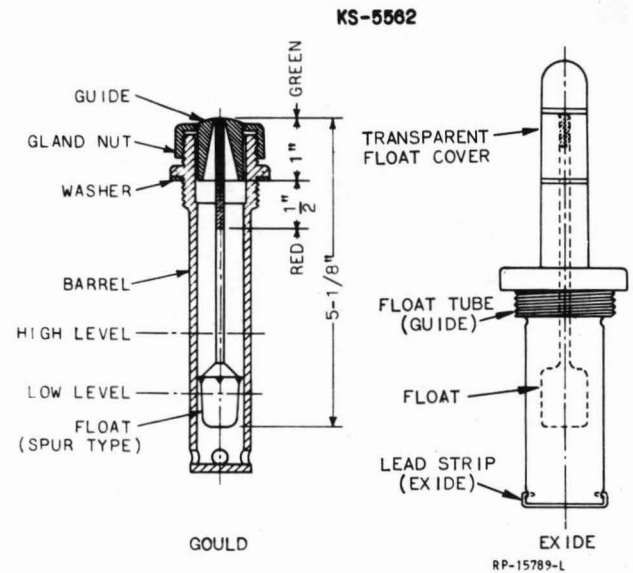

FIG. 4 ELECTROLYTE LEVEL INDICATORS (PARS. 6.2, 6.5, 6.6)
6.2 A transparent float cover is fitted over the exposed part of the float in Exide floor mounted cells. The stem of the float for an Exide KS-5562 cell is colored at the top. Lines are etched on the float cover to indicate high and low levels of electrolyte. See Figure 4.
6.5 To assemble Exide level indicators having float covers, bend both ears of the lead strip at right angles to body of strip using a pair of R-2291 short nose pliers. See Figure 4. Insert float stem up into bottom of float tube. Engage bent ears of lead strip by pressing ends into side holes on body of the float tube. This strip acts as a stop for the float.
6.6 To install Gould level indicators remove the hard rubber packing gland from the barrel, place the float guide in the gland with the small opening at the top. Place the stem of the float through the float guide and place on the barrel in the cell cover with the bulb part of the float down in the well and then screw the gland in place to a snug fit. When the float guide is properly placed the top of the guide extends past the top of the gland about 1/16". See Figure 4.